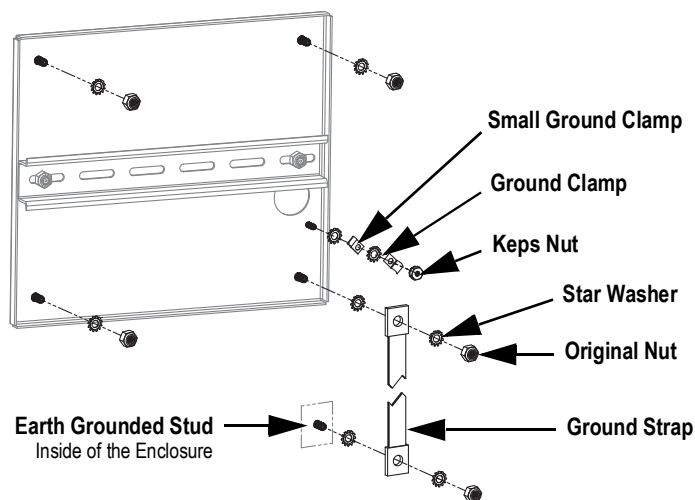

Figure 2-29. Backplate Shield Grounding
3. Secure the other end of the ground strap to an earth grounded stud inside of the enclosure with star washers on either side of the ground strap, see Figure 2-29. Make sure there is an appropriate amount of slack in the grounding strap for opening and closing the enclosure door.
Note *Ensure the small ground clamp is installed first then install the ground clamp, see Figure 2-29 on page 29.*